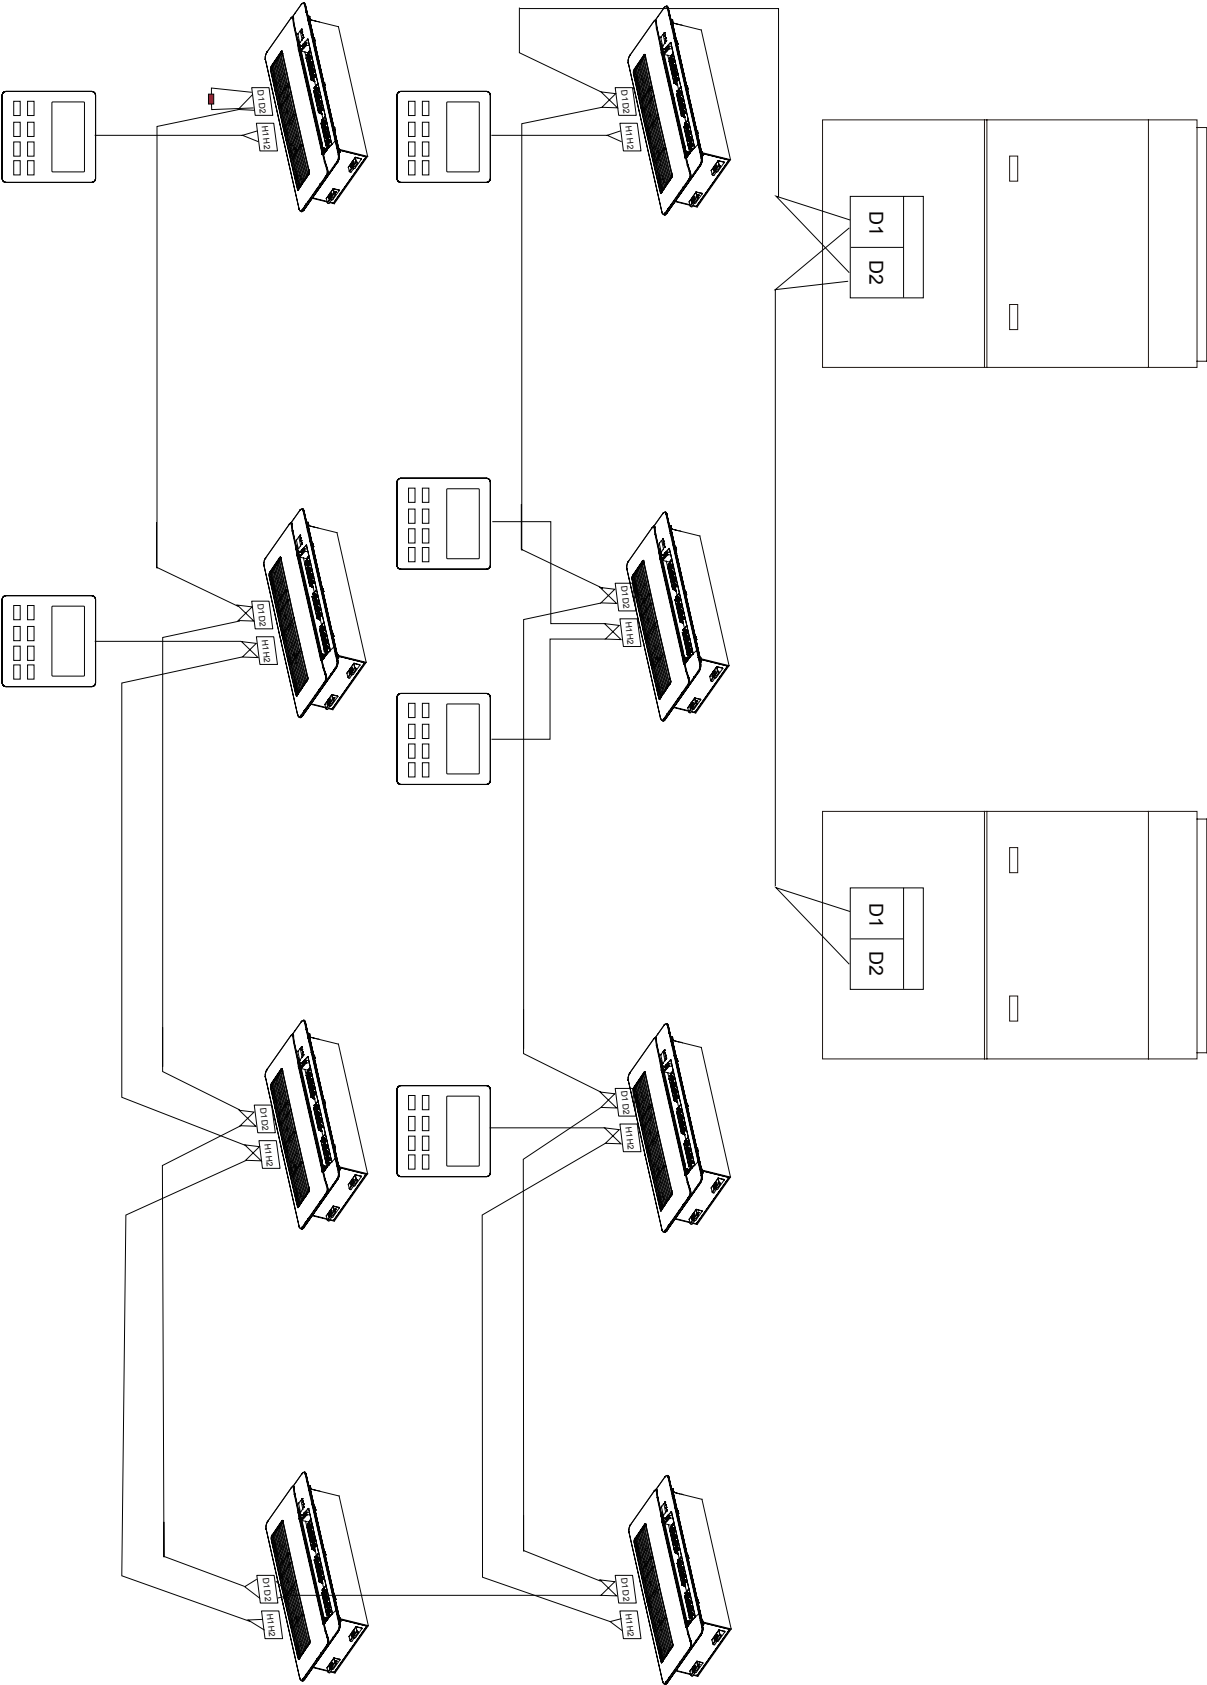

Fig 5.5
- (1) Communication wire of indoor unit and outdoor unit (or indoor unit) is connected to D1,D2.
- (2) Wired controller is connected to H1,H2.
- (3) One indoor unit can connect two wired controllers that must be set as master one and slave one.
- (4) One wired controller can control 16 indoor unitS in maximum at the same time. (as shown in fig 5.5)